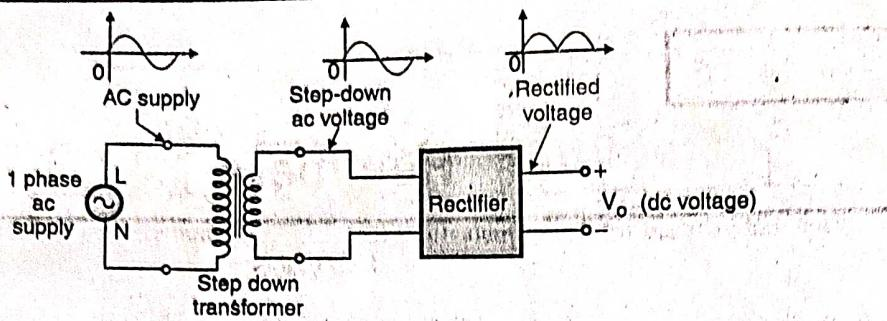

Fig. 11.1.1 : Block diagram of a rectifier
- For this purpose we have to use a regulated dc power supply. The block diagram of a rectifier is as shown in Fig. 11.1.1.
- Block diagram of a rectifier is shown in Fig. 11.1.1.
- For this the ac supply voltage has to be reduced (stepped down) first using a step down transformer as shown in Fig. 11.1.1 and then converted to dc by using a rectifier.